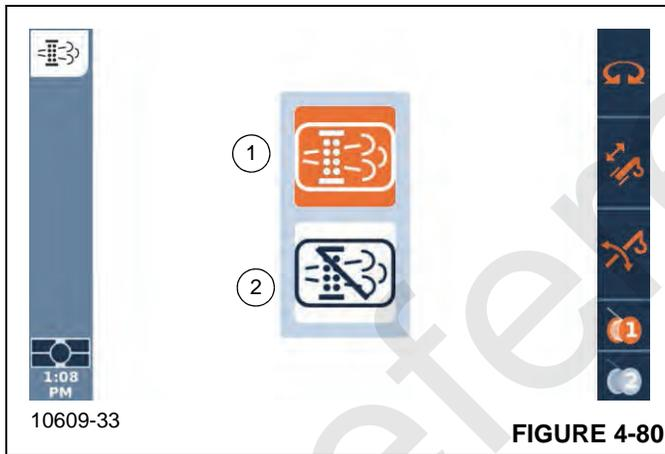

FIGURE 4-80
The Exhaust System Cleaning function screen (Figure 4-80) allows the operator to initiate or inhibit the exhaust system cleaning process.
6. Using the Jog Dial or the Up/Down Arrow Buttons on the Navigation Control Pad, select the Initiate Manual Cleaning Process Icon (1, Figure 4-80) (icon turns orange).
Pressing the service brake pedal or throttle pedal during cleaning or selecting the Inhibit Cleaning Process Icon (2, Figure 4-80) will interrupt the manual cleaning process.